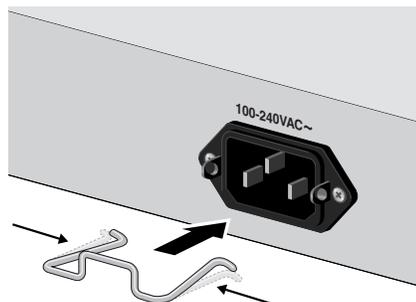

Figure 8. Inserting the Retaining Clip into the Retaining Bracket
3. With the “u” of the clip facing up, press the sides of the clip toward the center and insert the short ends into the holes in the retaining bracket, as shown in Figure 8.